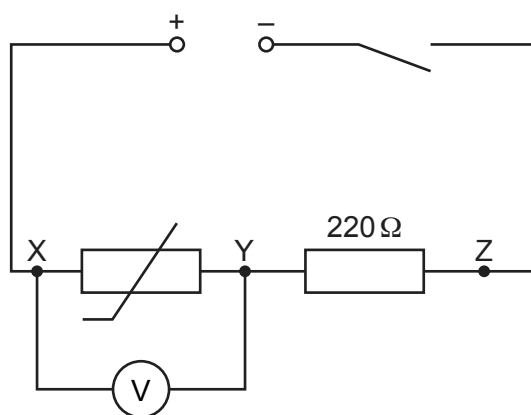

Fig. 2.1
- sufficient connecting leads to assemble the circuit shown in Fig. 2.1 (see Note 5)
5 The supervisor must assemble the circuit shown in Fig. 2.1 for the candidates in advance of the examination. The thermistor must be placed inside the beaker. Terminals X, Y and Z must be labelled. The connecting leads to the thermistor must be long enough to allow the thermistor to rest on the bottom of the beaker, which must be at least 30 cm distant from the rest of the circuit.
The circuit must be restored to its original state as shown in Fig. 2.1, with the switch open.